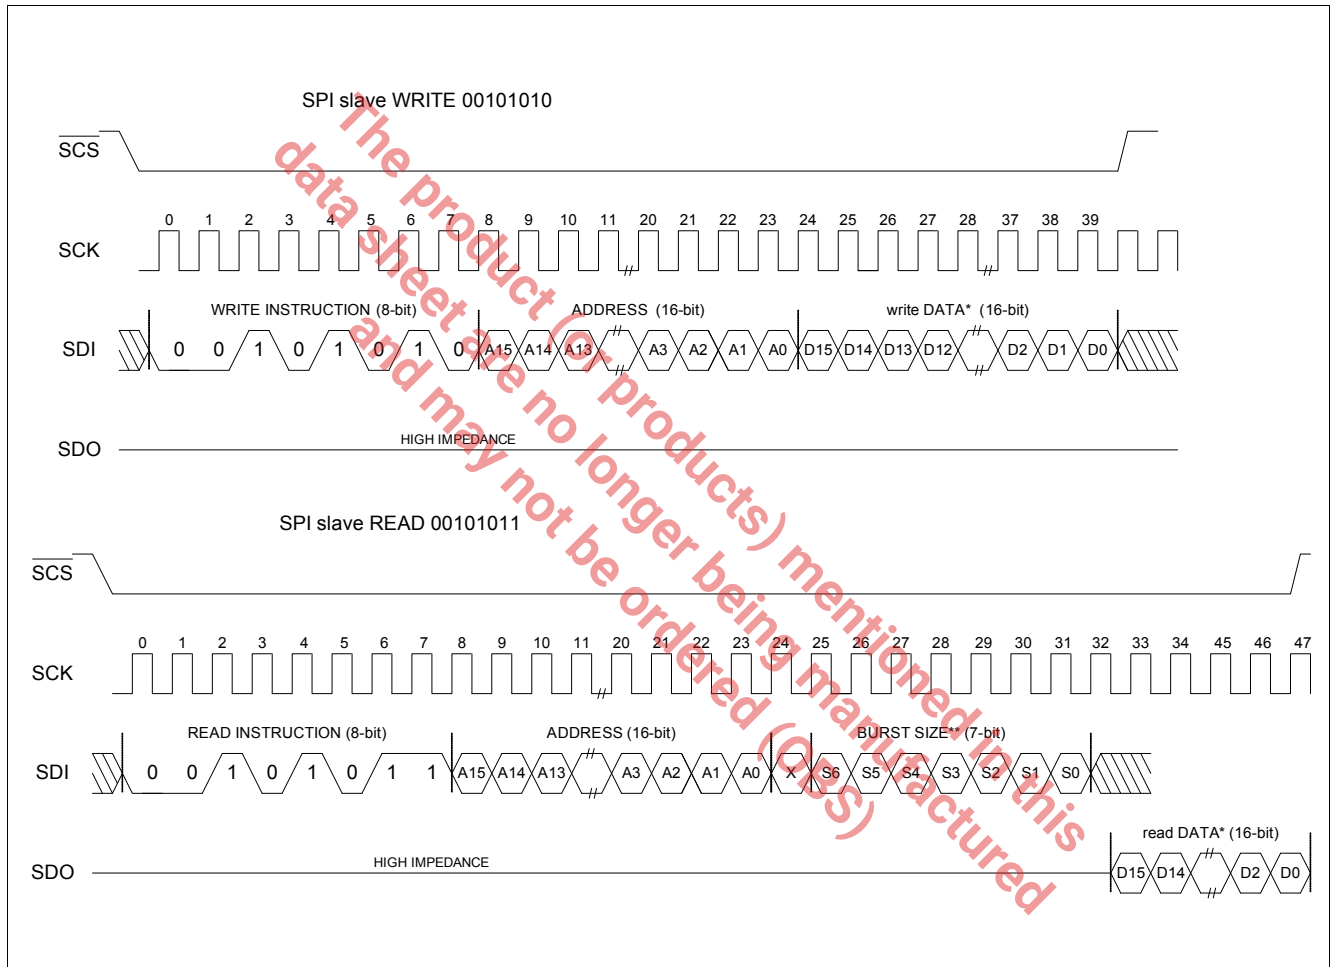

Figure 10 SPI Slave Access
SPI Slave follows the 16-bit/24-bit serial EEPROM like protocols (for WRITE/READ respectively) as shown in timing diagrams **Figure 10**:
- SDO can also be driven up to 2 SCK cycles earlier than the sequence defined in **Figure 10**.
- if $\text{SSPI_CFG.REFCYC} = 0$, SDO is driven 2 SCK cycles earlier than the sequence defined in **Figure 10**.
- if $\text{SSPI_CFG.REFCYC} = 1$, SDO is driven 1 SCK cycles earlier than the sequence defined in **Figure 10**.
- if $\text{SSPI_CFG.REFCYC} = 2$, SDO is driven as the sequence defined in **Figure 10**.
- if $\text{SSPI_CFG.REFCYC} = 3$, SDO is driven 1 SCK cycles after than the sequence defined in **Figure 10**